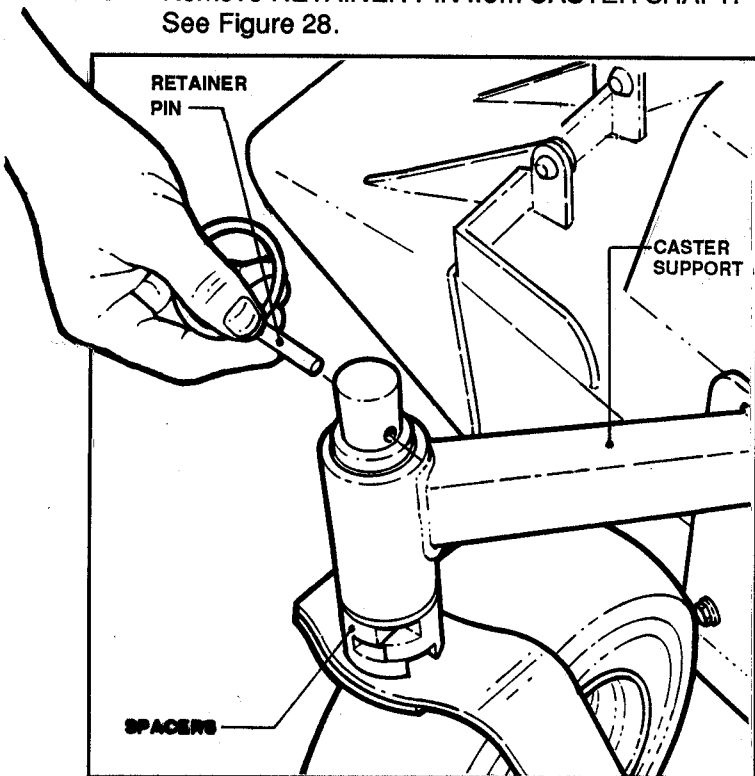

FIGURE 28
1. Remove **RETAINER PIN** from **CASTER SHAFT**. See Figure 28.